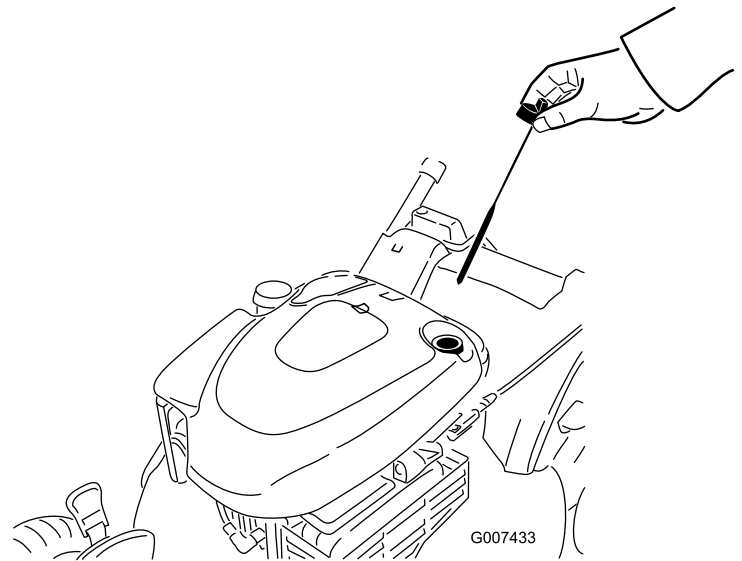

Figure 34
2. Remove the dipstick (Figure 34).